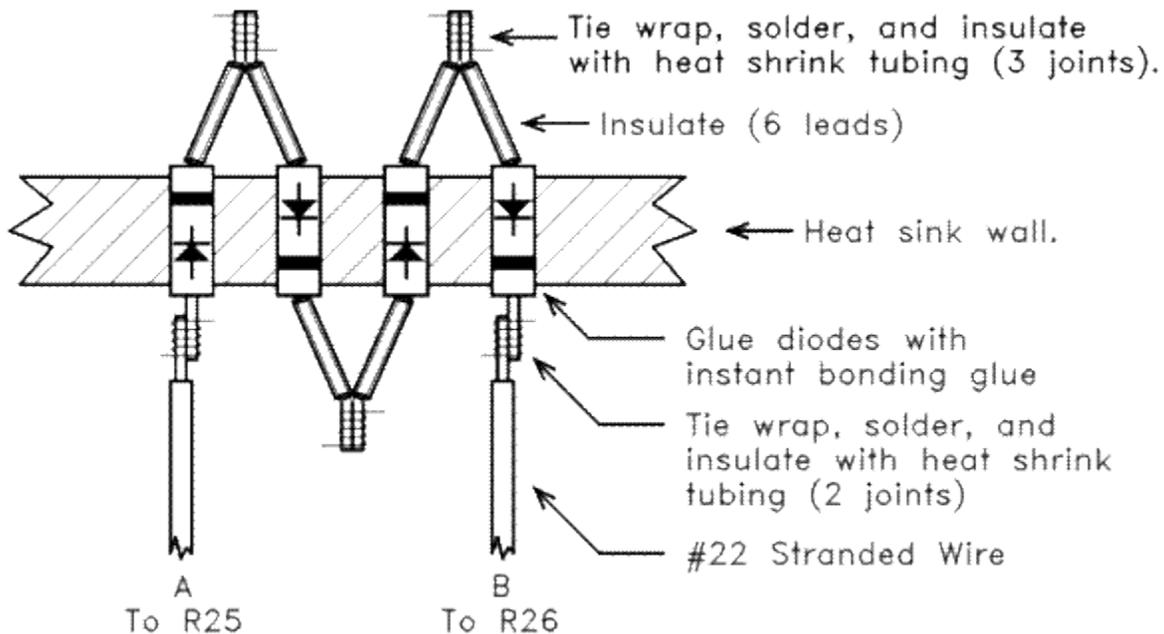

Figure 6. View of diodes in heat sink wall.
*“You should be careful when you assemble and install the bias diodes. If a diode is forced into a hole in the heat sink that is too small, its case can crack. I once saw a student's amplifier that randomly blew power supply fuses. We traced the problem to a cracked diode. He was lucky that the power transistors didn't blow. Figure 6 illustrates the installation of the diodes in the heat sink walls. There are 6 bent leads which must be insulated with insulation removed from hookup wire before being bent. There are 5 joints which must be tie wrapped, soldered, and insulated with heat shrink tubing. The diodes are glued into the heat sink with instant bonding glue. Do not use the gel version of this glue. It does not flow and will end up on the outside of the heat sink.*
- *Bend the 6 insulated diode leads as shown in Figure 6 so that they are at an angle of approximately 45 degrees with the heat sink wall. Bend the ends of the leads so that they are parallel as shown in the figure. Tie wrap the parallel leads together with a spiral wrapped single strand from #22 stranded hookup wire. Two needle nose pliers make this tedious operation simpler. Solder the wrapped wires.*